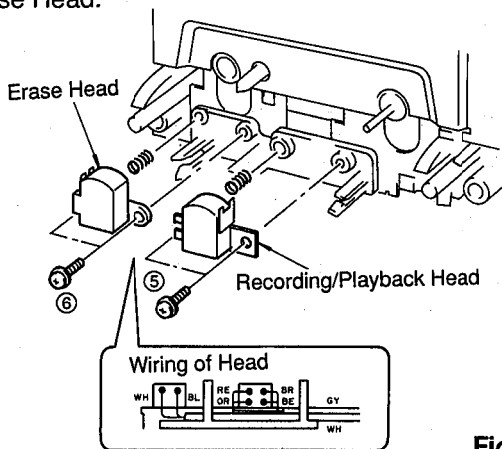

Fig. 6
- a. Remove 2 screws (5) in fig. 6 and then remove the Recording/Playback Head.
b. Remove 2 screws (6) in fig. 6 and then remove the Erase Head.